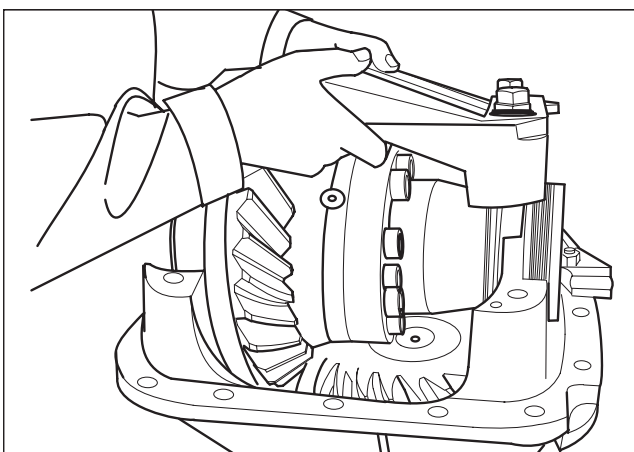

Fig. 2.10
10. Lift bearing cap off differential housing assembly. (Fig.2.10)